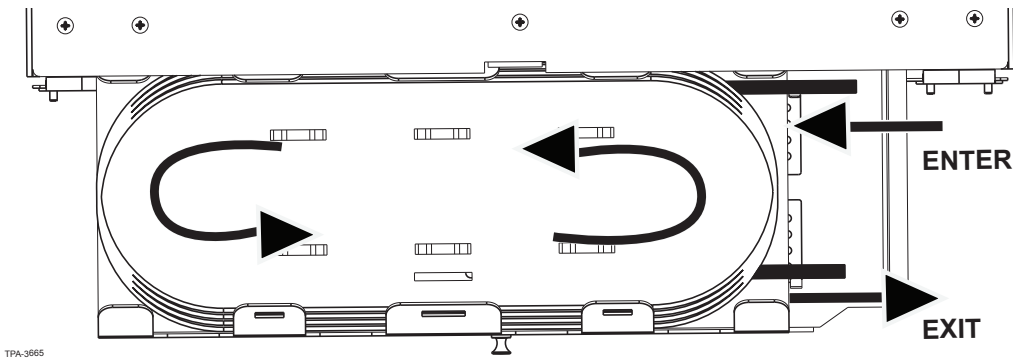

Figure 11
**Step 2:** Route the buffer tubes inside the flanges of the basket (Figure 11).